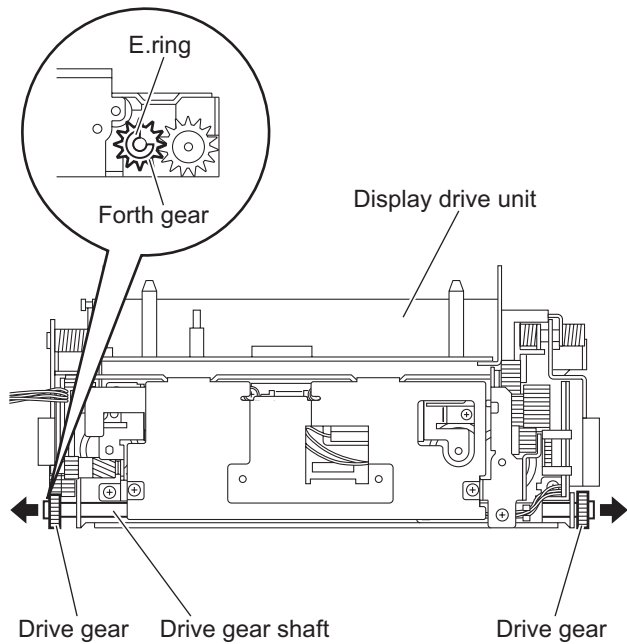

Fig.4
- (2) From the top side of the display drive unit, pull the drive gears out of a drive gear shaft in the direction of the arrow while holding the drive gear shaft. (See Fig.4.)
Remove the drive gear shaft as required. (See Fig.4.)
- (3) From the left side of the display drive unit, remove the E.ring fixing the forth gear. (See Fig.4.)
- (4) Remove the forth gear toward this side. (See Fig.4.)